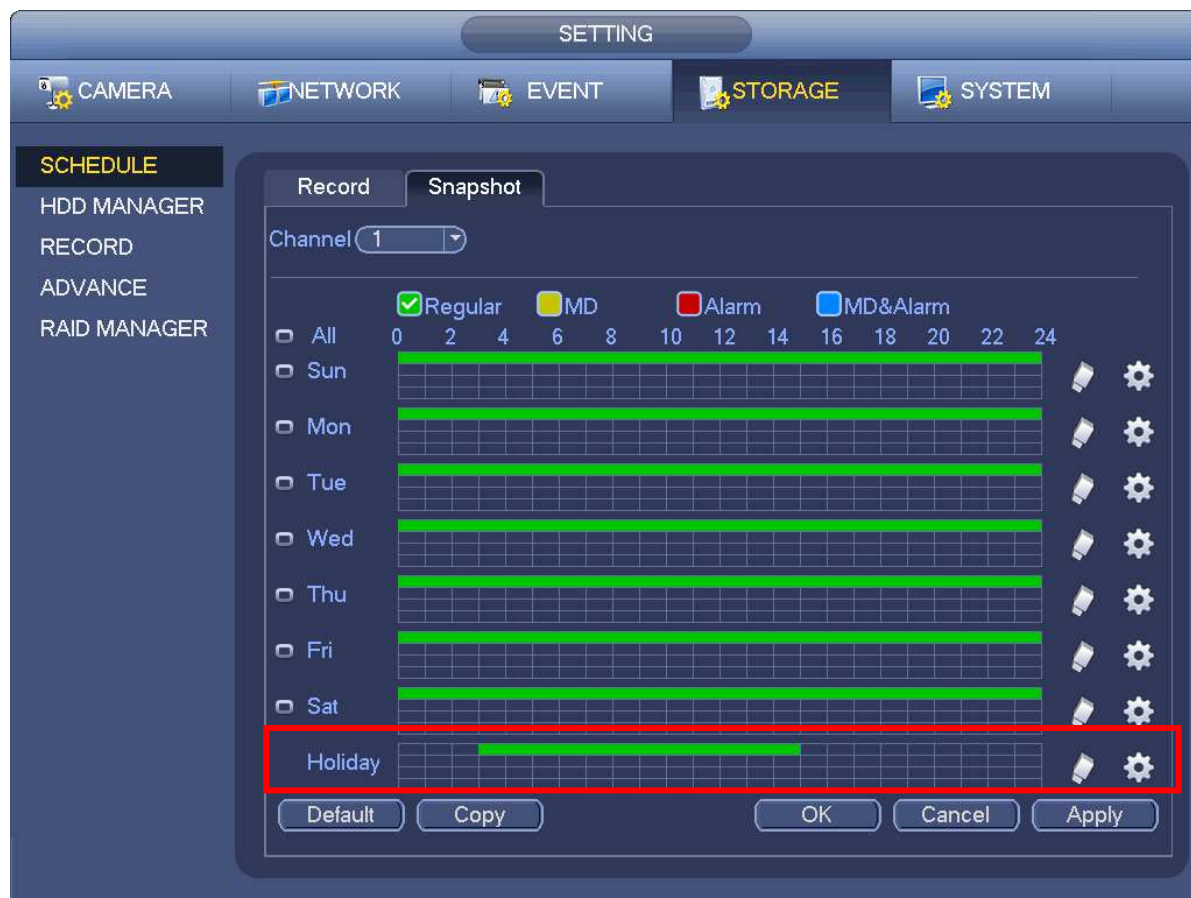

Figure 4-75
- d) From Main menu->setting->Storage->schedule, you can go to schedule interface. See Figure 4-75. Now you can set period and record type of holiday time. Please refer to chapter 4.9.2.1 for detailed setup information.
From Main menu->Setting->Storage->Schedule, you can go to schedule interface. See Figure 4-75. Click Holiday item to set snapshot period.